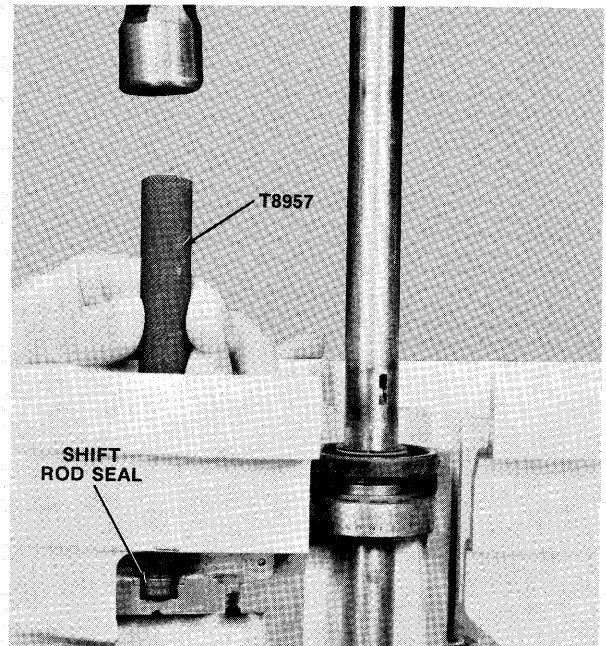

Figure 5—Installing Shift Rod Seal
- A. Apply Loctite “H” (Special Tool T2962) on outside diameter of shift rod seal. Install seal on seal installer (Special Tool T8957) with raised bead on seal in cavity machined in tool. Drive seal in seal bore until tool bottoms on top of seal bore as shown in figure 5.